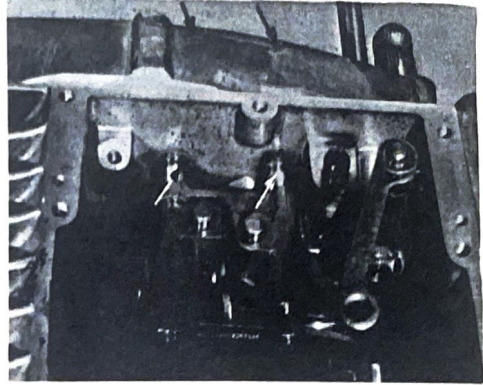

Fig. 4-12-8
- 4) Remove the shifter shaft circlip, and pull out the shifter shaft. Remove the shift fork. (When removing the shifter shaft circlips, remove the one on the external side of the case, then press the shaft inward.) Next, remove the other circlip on the inner side of the case. (Fig. 4-12-8)